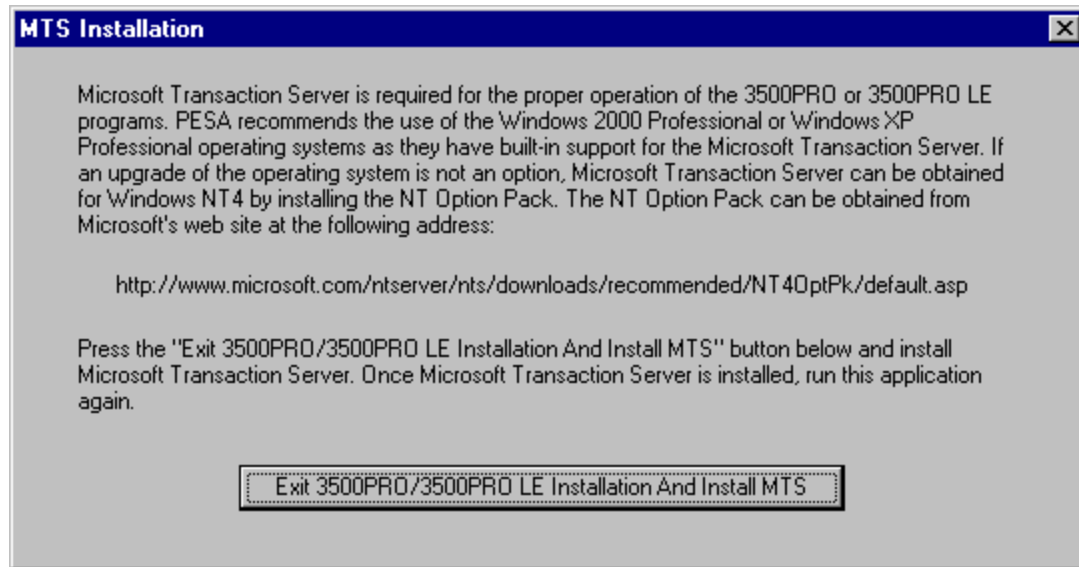

Figure 5: MTS Installation Not Detected
2. If you are installing the program on Windows NT and do not have the Microsoft Transaction Server (MTS) installed on your PC, you will see the following message (see Figure 5):